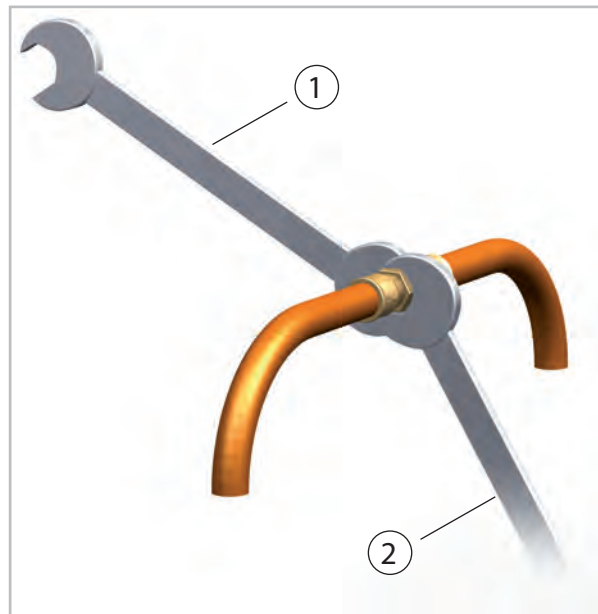

Fig. 35: Tightening the fitting
11. ➤ Then tighten the fittings with 2 appropriately-sized open-ended spanners. Use one spanner to counter the force when tightening the fitting (Fig. 35).